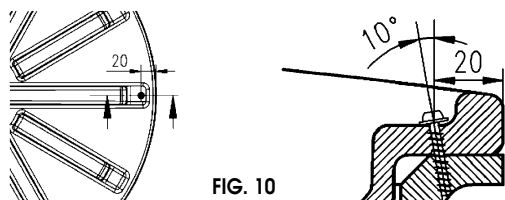

FIG. 10
- To prevent any unauthorised opening of the cover (child safety), particularly for buried installation, the cover may be locked in place using the screw provided. To this end, drill a Ø 3mm hole in the recession predefined on the tank's cover and flange (10° angle), then screw in the screw. (See FIG. 10 - below).